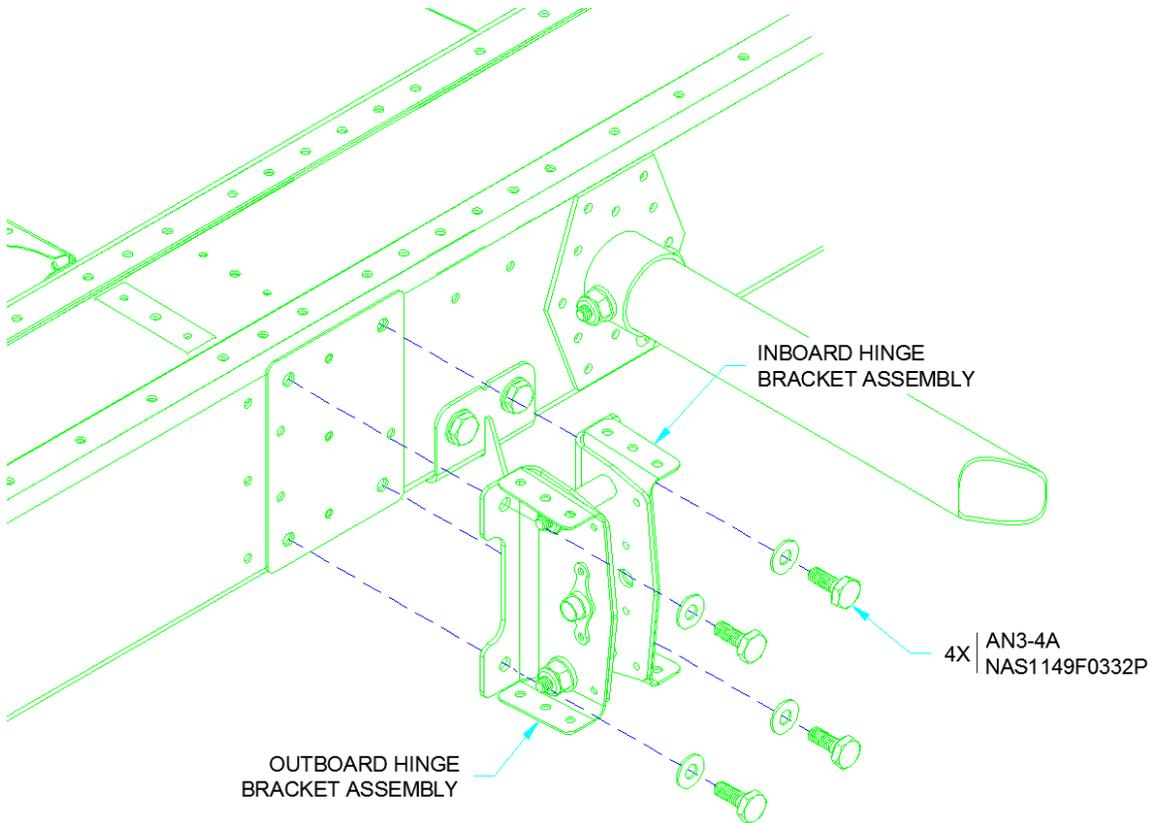

FIGURE 7: ATTACHING THE HINGE BRACKET ASSEMBLIES TO THE MAIN SPAR
Step 21: Bolt the Inboard Hinge Bracket Assemblies to the Stabilator Assembly. See Figure 7.